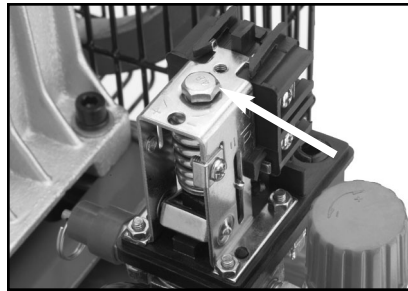

Figure 8. Pressure Regulator.
5. Turn the pressure adjustment bolt (**Figure 8**) a half turn clockwise to increase the tank pressure and a half turn counter-clockwise to decrease the pressure.